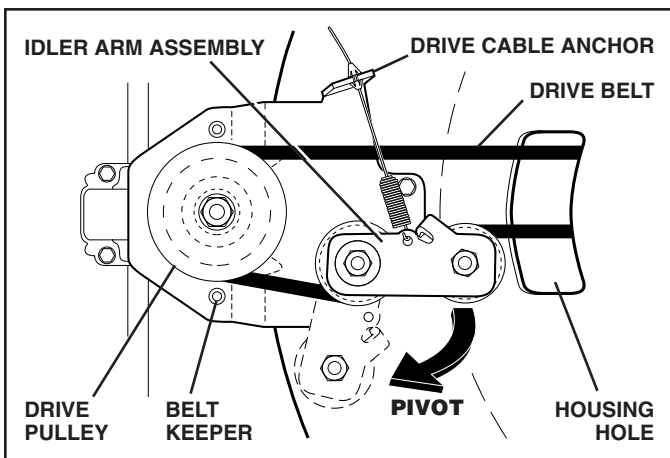

FIG. 19
3. Remove drive cable from anchor, then detach spring from idler arm assembly (See Fig. 19).
9. Install new drive belt into idler arm assembly, then around the drive pulley. Be sure belt is inside of belt keepers (See Fig. 19).